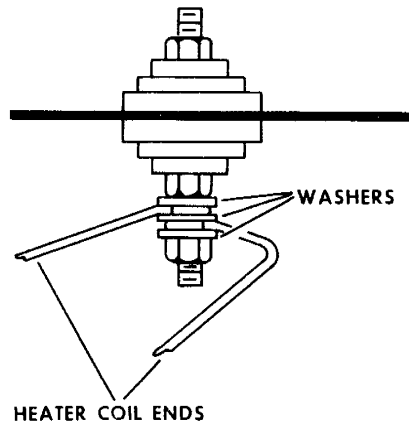

Figure 4 - Install Studs and Connect
6. Make hooks on the ends of the coils and place the hooked ends on the proper terminal so that each hooked end is sandwiched between two washers, Figure 4.